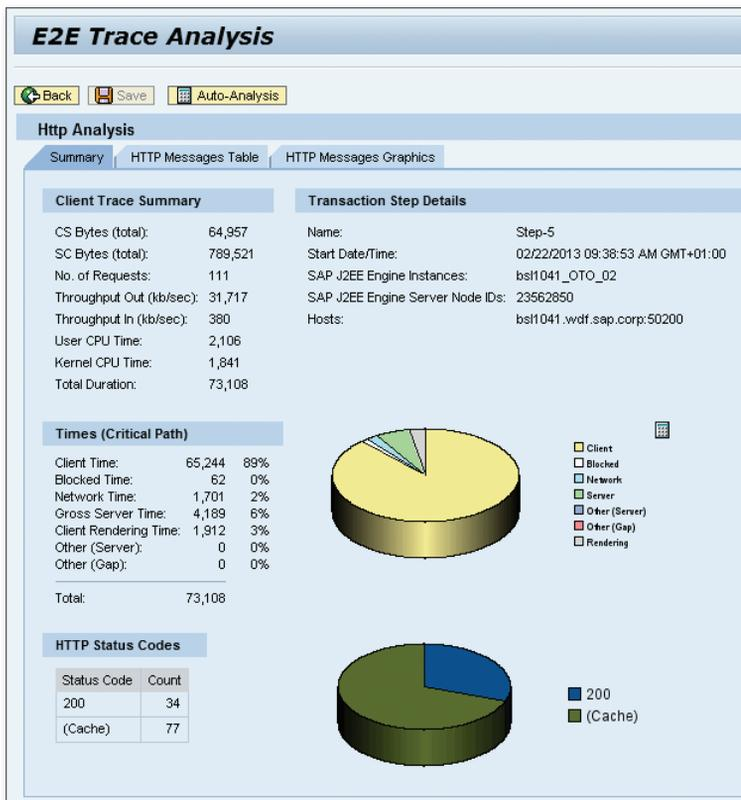

Figure 4.48 End-to-End Trace Analysis—Summary
The trace summary contains various pieces of information about the user transaction (see Figure 4.48).
- ▶ In the example involving Toys Inc. (see Figure 4.48), the most time was consumed on the client (**CLIENT TIME**). In this case, you would introduce additional steps for analyzing and optimizing the end user's PC. BMC AppSight is suitable for this task, but a detailed description of this tool is beyond the scope of this book. This tool is free of charge and can be used, under the SAP Solution Manager license, to analyze SAP transactions.